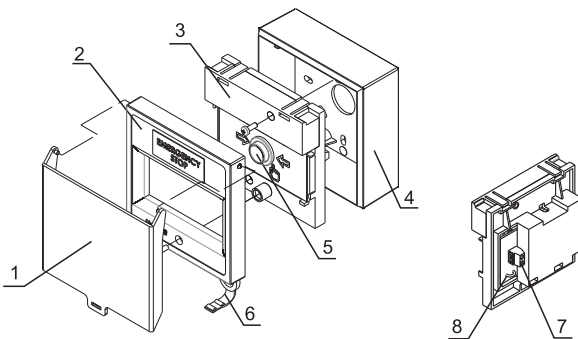

Fig.1/ Fig.1a
FD3050B consists of: surface mounting box (pos.4, fig.1), a carrier unit (pos.3, fig.1), a button (pos.5, fig.1), a breakable seal (pos.6, fig.1), a cover (pos.2, fig.1) and a protective cover (pos.1, fig.1).
1. Dismantle the basic components of the unit: the cover, the carrier unit, and the back box shown on fig.1 by unscrewing the fixings.
3. Join the wires of the input line to terminals (pos.7, fig.1), located on the rare side of the carrier unit (pos.8, fig. 1a).